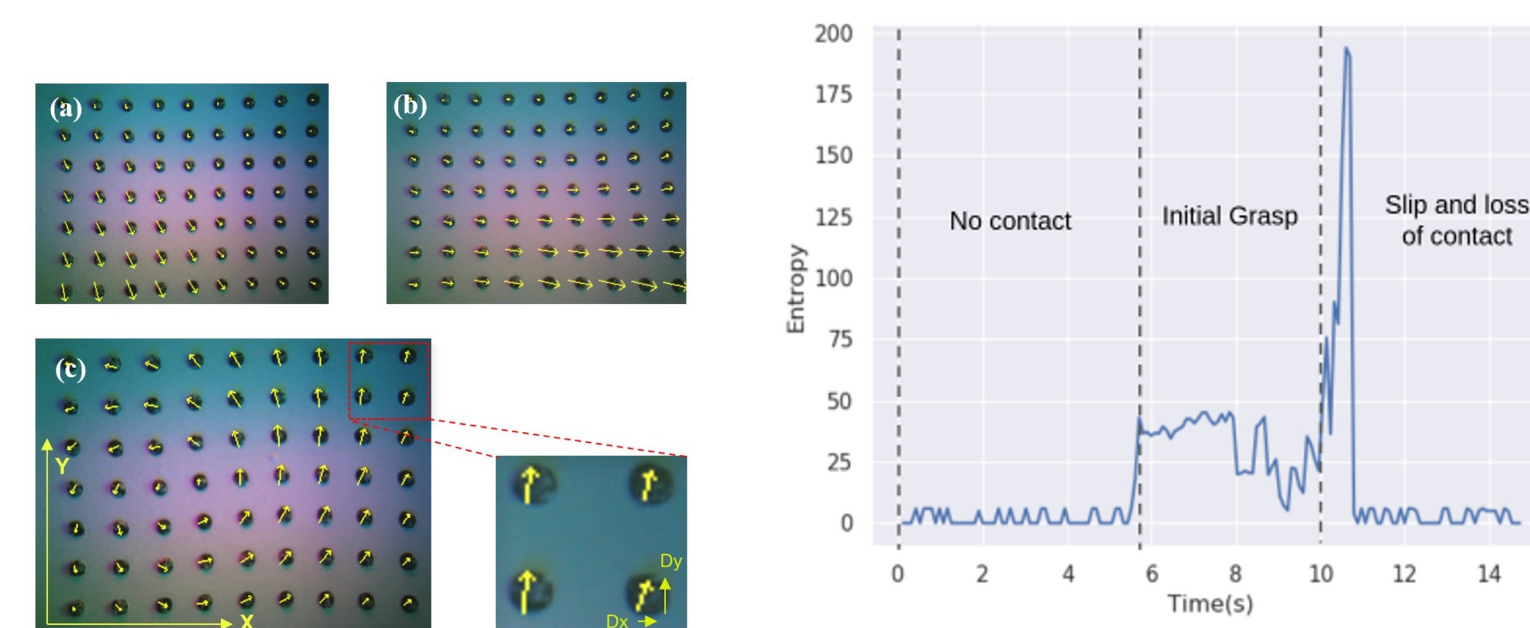

Figure 2: Output from GelSight and Entropy as object starts to slip
- GelSight sensor outputs images which provide qualitative information about the contact forces and also surface contour as shown in Figure 2